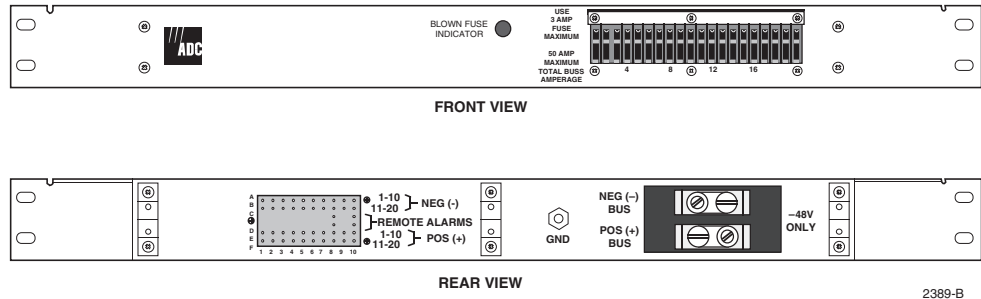

Figure 2-6. Fuse Panel
3. Complete the connection (Step 2) to the -48 V (NEG(-)BUS) and ground (POS(+)BUS) terminals on the fuse panel. See Figure 2-6.